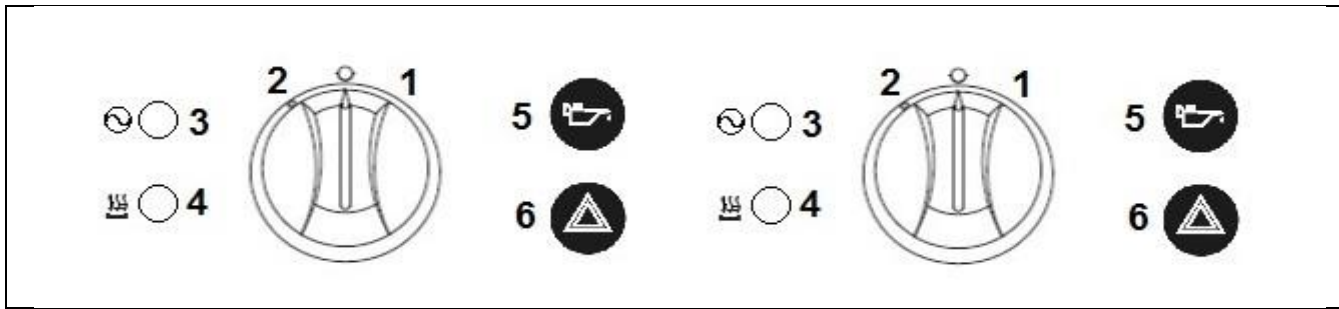

Figure 3 – E3845X/E3845FX/E3845F2X Control panel
3.3.2 E3845X/E3845FX/E3845F2X Fryer Control Panel (See Figure 3)